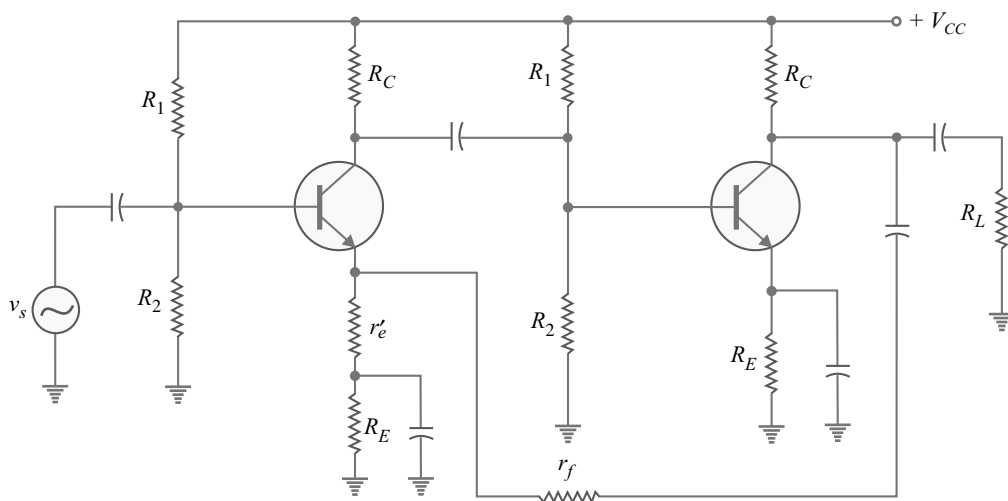

Fig. 11.20
**Example 11.19.** For the two-stage negative voltage feedback amplifier shown in Fig. 11.20,  $r'_e = 75 \Omega$  and  $r_f = 5 \text{ k}\Omega$ . Find the voltage gain of the amplifier circuit.